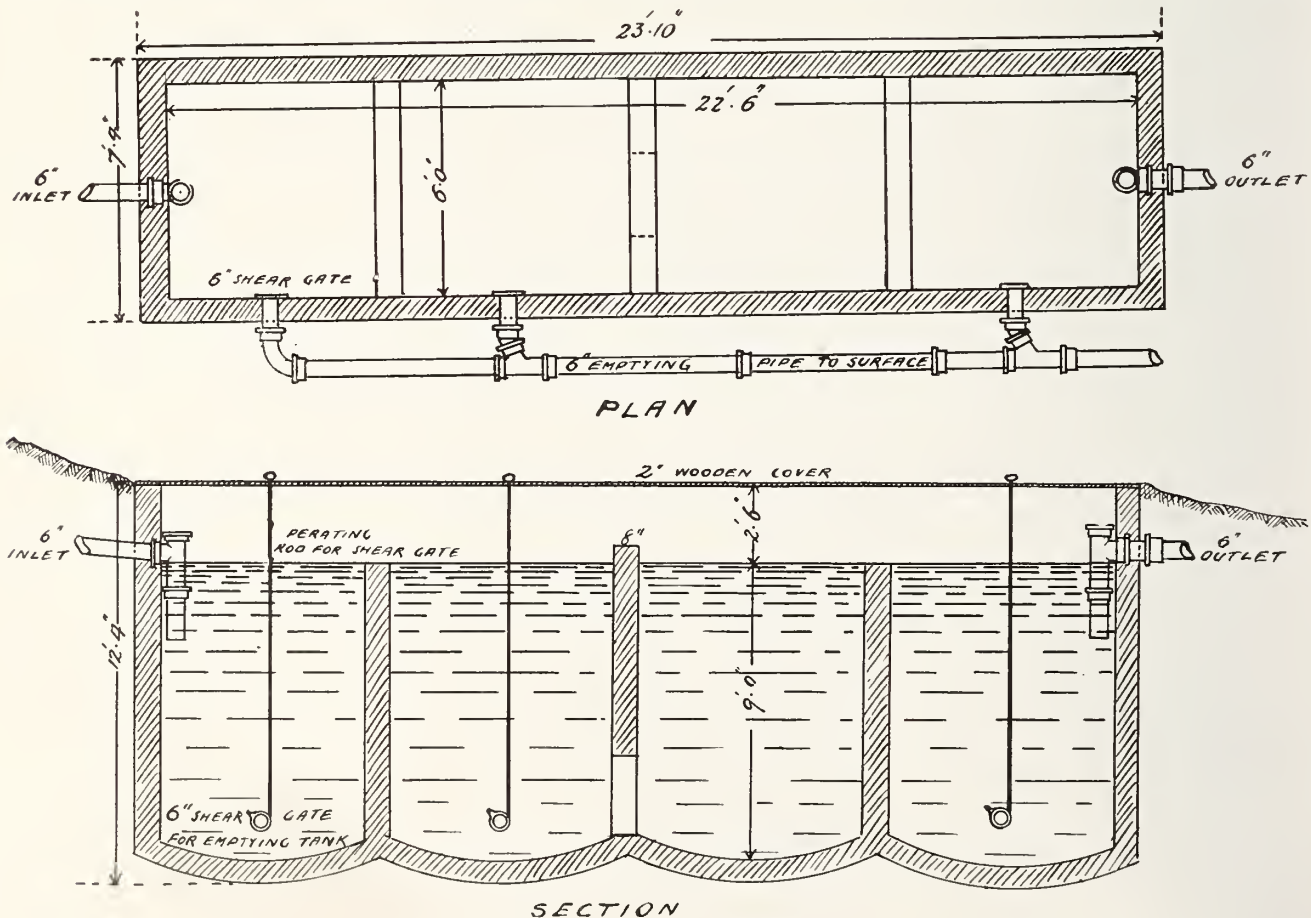

Fig. 1.—Design of the Septic Tank.
U.S. gallons, which may be built as shown in Fig. 1, which sufficiently explains the construction. Provision is made by shear gates for the occasional emptying and removal of the sewage accumulating in same. The tank may be covered in the simplest manner with 2-inch wooden planking. The effluent passes out through the outlet pipe, and is now in condition for more complete purification by oxidation and intrification in one of the several ways. It may, for instance, be purified by land treatment, preferably by sub-surface disposal, provided sufficient land is available, or by using contact filter beds. To effect this, the effluent is collected in a liquid sewage tank, as shown in Fig. 2.